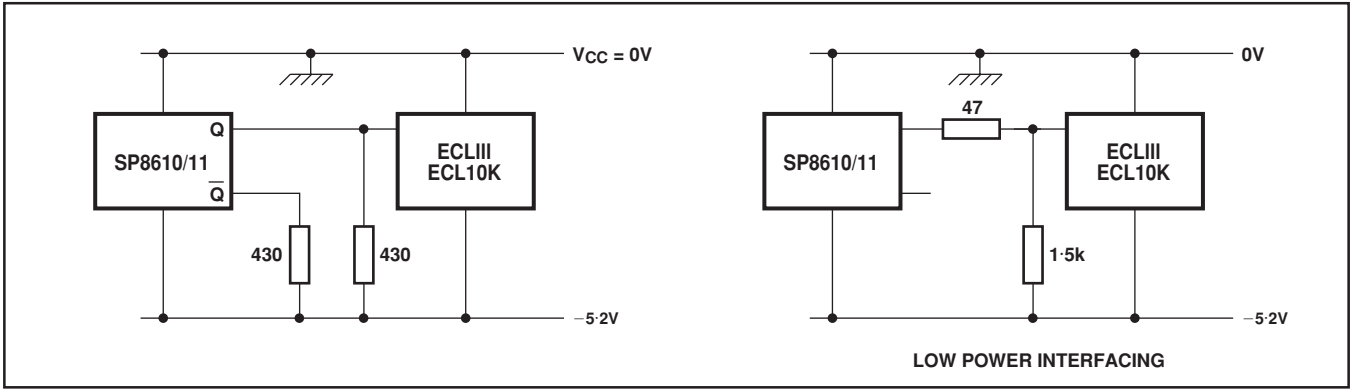

Fig. 7 Interfacing SP8610/11 to ECL10K and ECLIII
5. The emitter follower outputs require external load resistors. These should not be less than  $330\Omega$  and a value of  $430\Omega$  is recommended. Interfacing to ECLIII/10K is shown in Fig. 7.